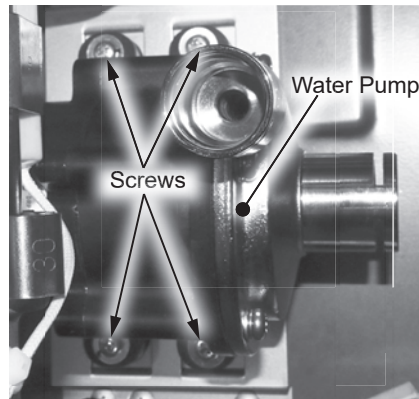

Figure 170 - Water pump screw locations
- 22** Locate the four (4) screws securing the water pump assembly to the bracket at the back side of the water heater cabinet. Use a 12" Phillips screwdriver to loosen screws so they no longer engage bracket threads. Do not remove screws from gasket boots. See Figure 170.